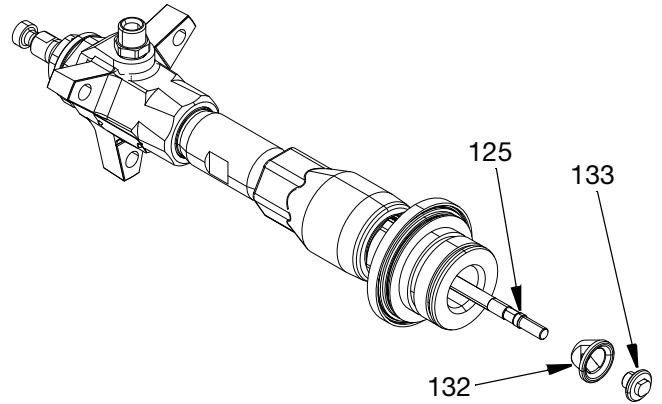

FIG. 31
- Slide the shovel piston (132) onto the lower shaft assembly (125). Apply thread sealant to the threads on the lower shaft assembly and screw on the shovel nut (133). See FIG. 31. Torque to the following specifications: